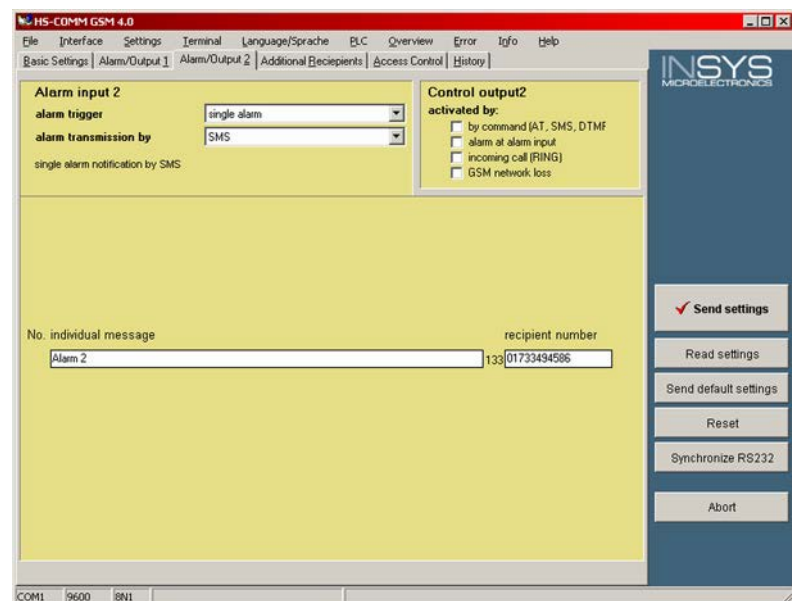

Fig. 226: GSM modem - alarm/output 2
3. ➤ Set up the modem as shown in (Fig. 226) on the “Alarm/Output 2” tab.